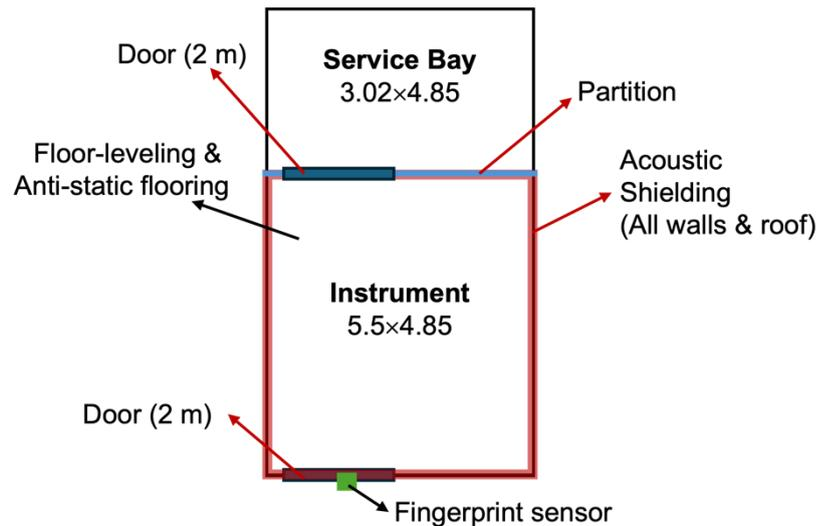

Figure 3. Layout of Room 2 (Ground Floor, D051)
C. Room 2 (Ground Floor, D051) – Diagram in Figure 3